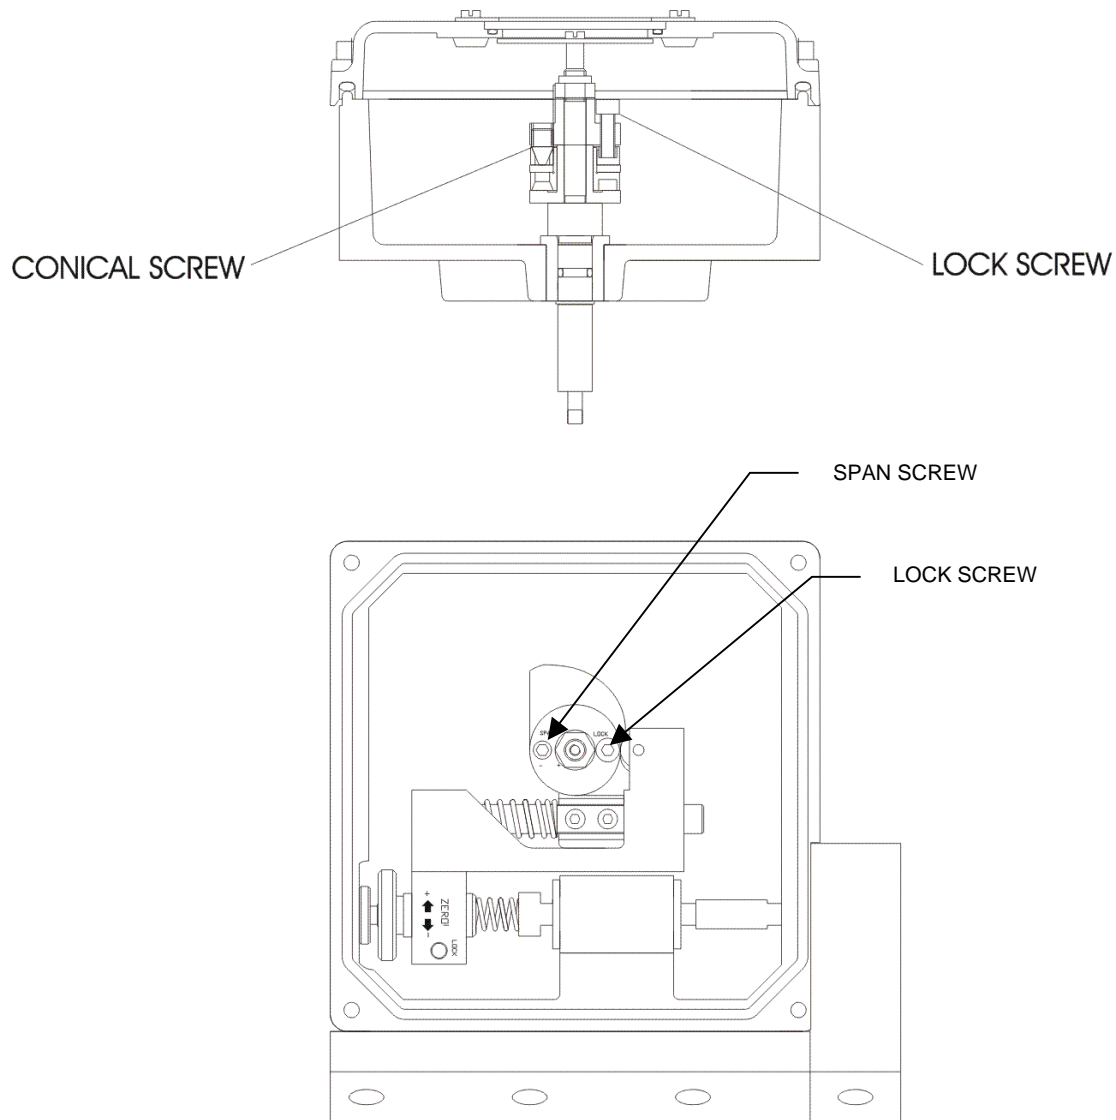

Figure 3-3. Span Adjustment
Figure 3-3 shows span adjustment.
3. Turn the Span screw (see Figure 3-3) until the desired span position is set. The span adjustment allows adjustment between 85° and 95° from zero point. Apply low input signal (i.e., 3 psi) and repeat zero and check adjustment (repeat zero adjustment if necessary).